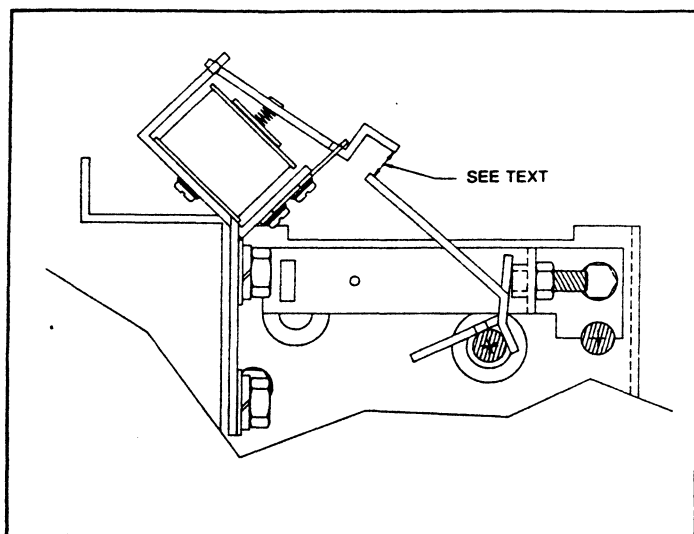

Figure 28. Trip Lever Gap Adjustment
- e. With the breaker mechanism in the reset position, check the gap between the trip coil armature and the trip lever extending from the trip shaft. This gap should be between $\frac{1}{4}$ " and $\frac{3}{8}$ ". If necessary, bend the trip lever slightly to achieve this setting. See Figure 28.